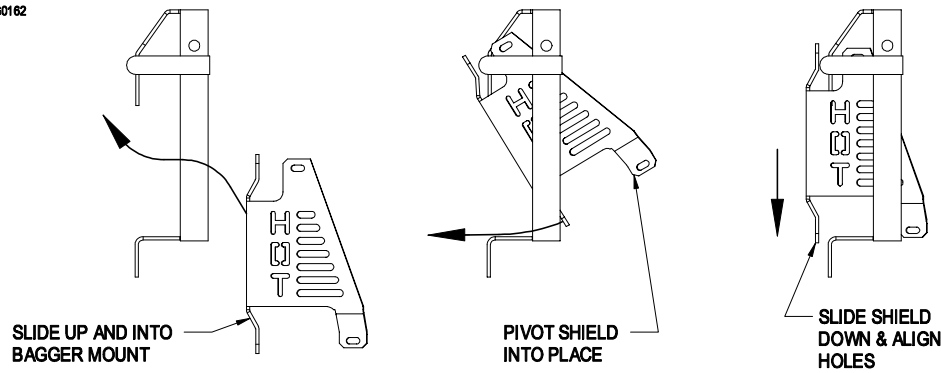

FIGURE 7
3.4.1. Working from the front side of the bagger mount, slide the top end of the engine guard up and into the mount. Pivot the lower end through the bagger mount and slide it down into place until the holes align with the holes in the bagger mount (See Figure 7).